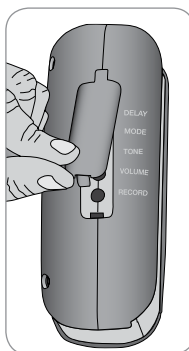

Fig. 4
1. Lift the programming control protective cover (fig. 4).